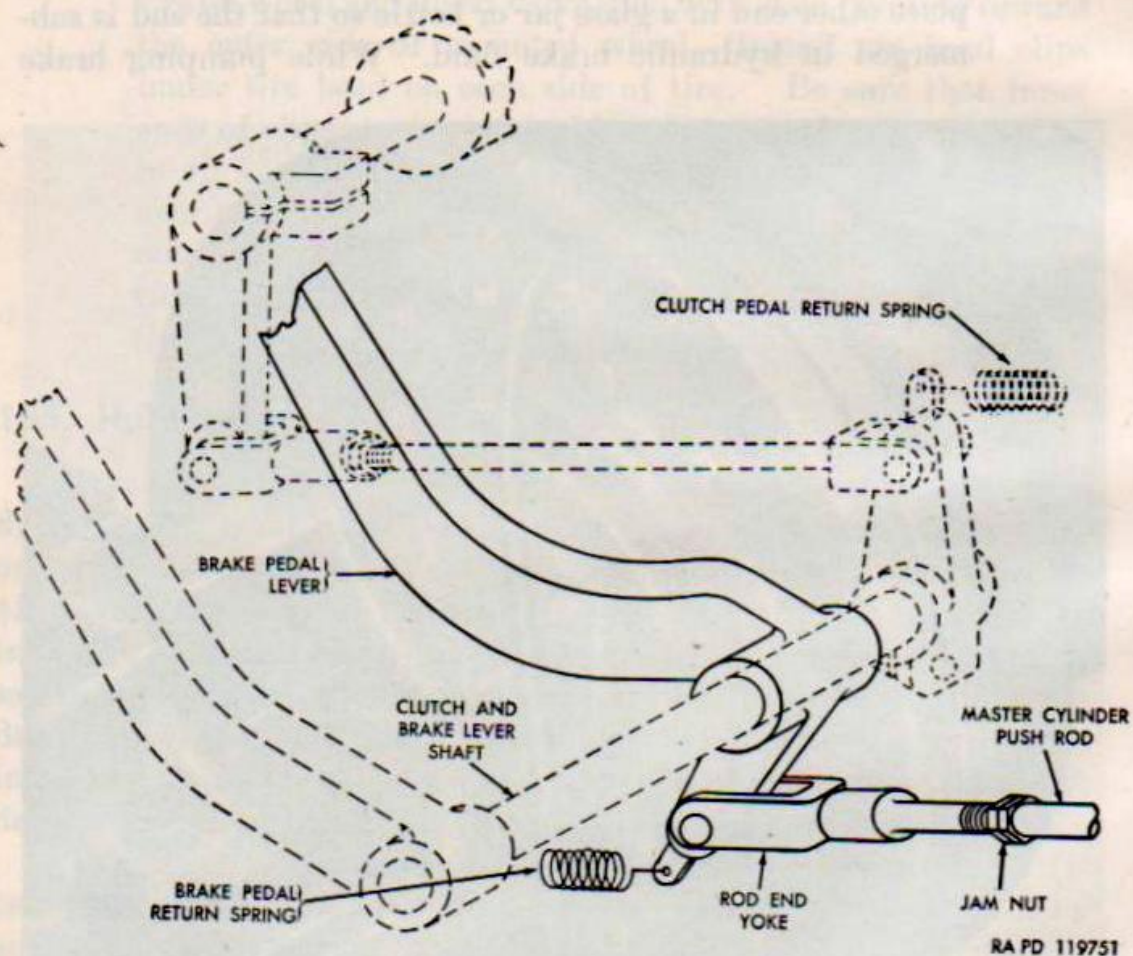
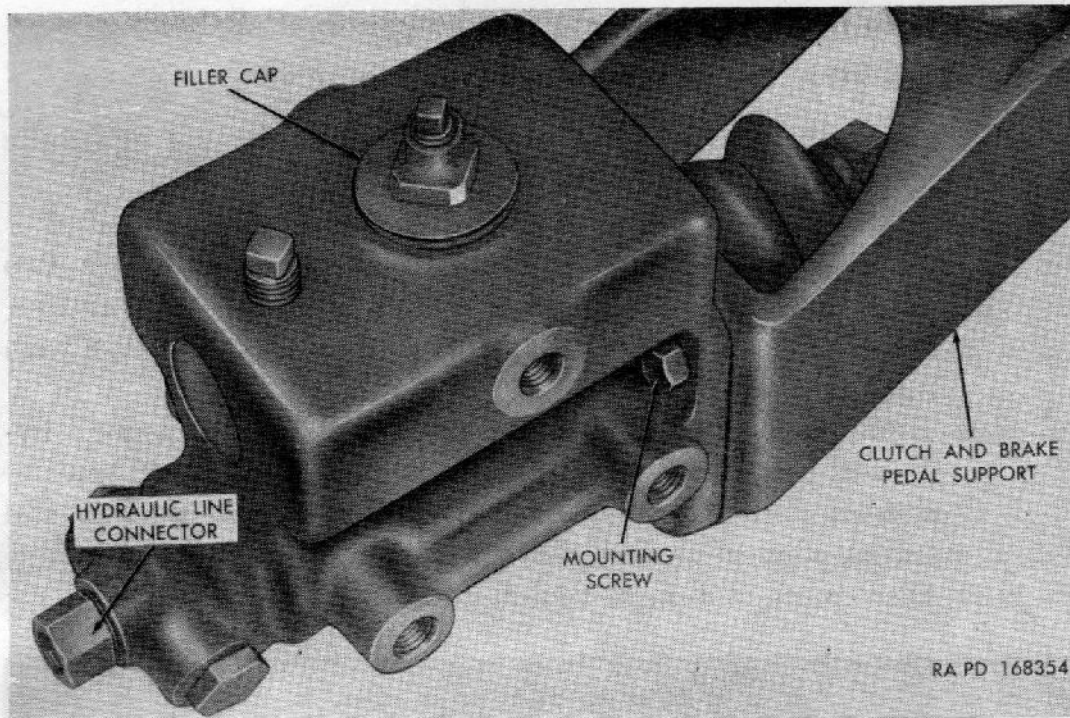

Figure 102. Service brake pedal and linkage.
Figure 103. Master cylinder.
b. MASTER CYLINDER. The master cylinder (fig. 103) contains hydraulic fluid, acted upon by a piston operated by action of brake-pedal linkage. Normal pressure on brake pedal is transmitted by fluid to air-hydraulic brake cylinder which automatically increases fluid pressure to wheel cylinders in direct ratio to foot pressure applied to brake pedal.
(fig. 102)
(fig. 103)
Adjust free travel to those limits by adjusting master-cylinder push rod (fig. 102). Loosen jam nut, remove clevis pin from brake pedal lever, and turn yoke to obtain desired setting. Connect yoke to pedal lever and tighten jam nut.
b. REMOVAL. Disconnect ventilation line at top (fig. 148), and hydraulic line at rear of master cylinder. Remove two cap screws holding power-take-off-shift-lever bracket to side of cylinder. Remove clevis pin connecting rod end yoke to brake pedal lever (fig. 102). Remove four mounting screws holding master cylinder to clutch-and-brake-pedal support and remove master cylinder (fig. 103).
- (1) Place master cylinder (fig. 103) in position and install mounting screws holding cylinder to clutch-and-brake-pedal support. Install two cap screws holding power-take-off-shift-lever bracket to side of master cylinder. Install clevis pin through brake pedal lever and rod end yoke (fig. 102). Adjust brake-pedal free travel (*a* above).
- (2) Connect hydraulic line at rear of master cylinder.
- (3) Remove filler cap, and fill the master cylinder reservoir to within one-half inch of top. Bleed brake system (par. 151). Reinstall filler cap, using new gasket when necessary, and connect ventilation line.